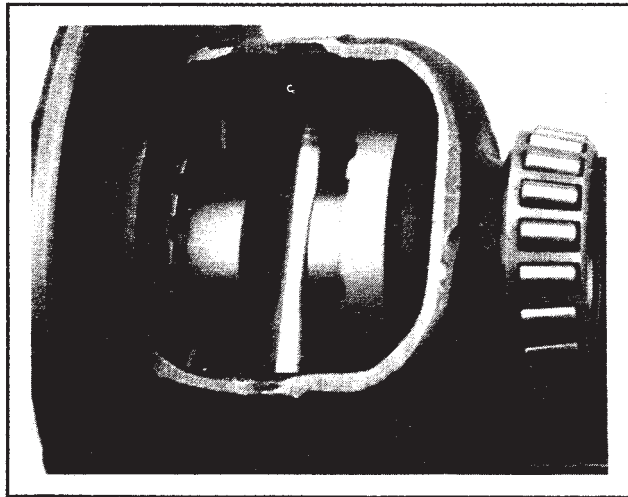

Figure 5
d) Hold a spacer on the center of each coupler, wide end down (if not symmetrical), and slide or tap the pinion shaft in through one of the holes. Guide it past the spacers – it should clear them by between zero and about .015-inch each (Figure 5).